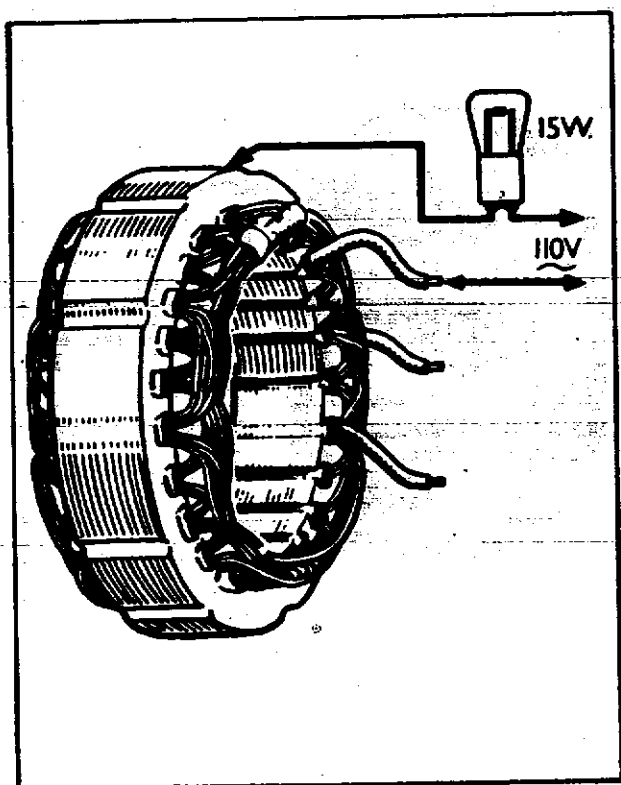

Fig. 27 – Stator Winding Insulation Test
2. Test for defective insulation between stator coils and lamination pack with the mains test lamp (see Fig. 27). Connect the test probes between any one of the three cable ends and the lamination pack. If the lamp lights, the stator coils are earthing and a replacement stator must be fitted.